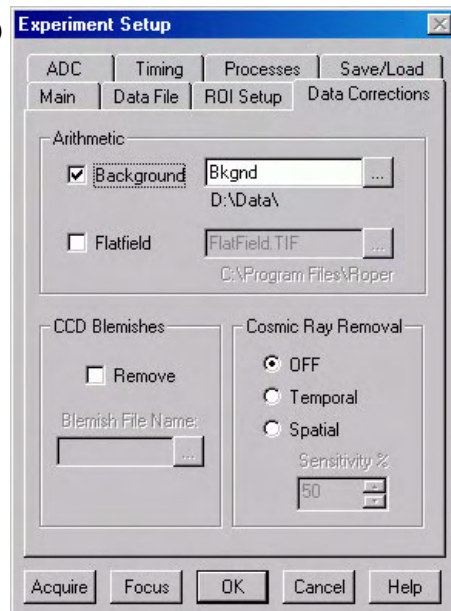

Figure 29. Data Corrections tab page
4. On the **Data Corrections** tab page (Figure 29) all of the correction functions should be OFF.